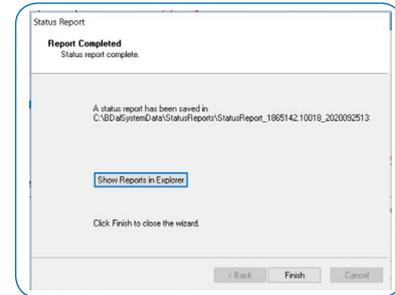

Figure 6.5 Status Report wizard, showing the location and name of the zip file with the status report
- The final screen of the “Status Report” wizard will open, with the location of the status report and the name of the zip file (see Figure 6.5)